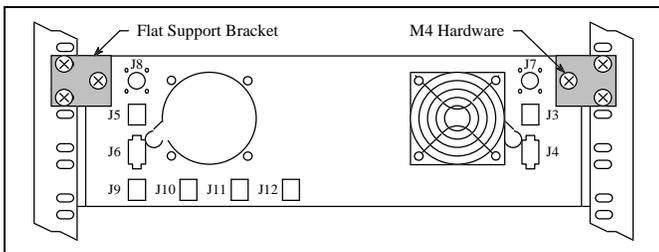

Figure 4 - Back Supports for Orion Radio Shelf
- Fasten two flat support plates (about 1 3/4" square) to the back of the Orion Radio Shelf using two M4 flat washers, two M4 lock washers, and two M4x12 screws (see Figure 4). Then fasten the flat support plates to the back rails of the cabinet using four Tinnerman clips and four sheet metal screws.